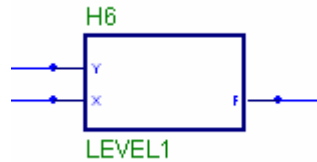
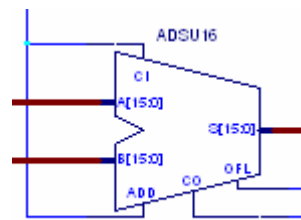

Figure 23
Figure 24
19. Beware of disconnected nets! Disconnected single nets will usually have blue dots, but not always. Disconnected buses will never have blue dots even if they are disconnected. Move components around to make sure the connected nets move with them. The components in both Figures 23 and 24 are disconnected, although you can not tell this from visual inspection of Figure 24. Disconnected nets often occur when you replace one macro with another. The **Replace Symbol** command (right-click on the component, then choose **Replace Symbol**) is less likely to lead to disconnected nets than other methods of replacing symbols, but only if the symbol interface of the new macro is the same as that of the old one.